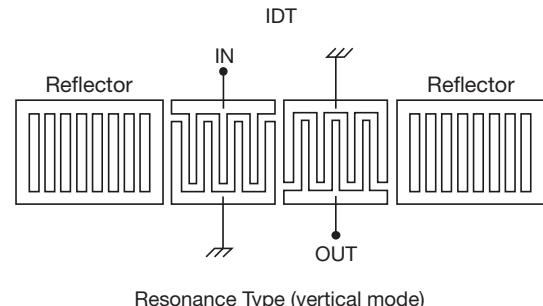

Figure 7)
- Resonance type filter consisting of SAW resonators that are electrically or acoustically combined (Fig. 7 & 8).